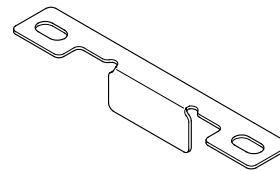

Fig. 2 Bracket for locking the pump shaft
2. Lift the chamber stack as far as possible and fit a bracket (fig. 2) to the pump shaft and the pump head. The bracket must be ordered separately (product number 96465853).